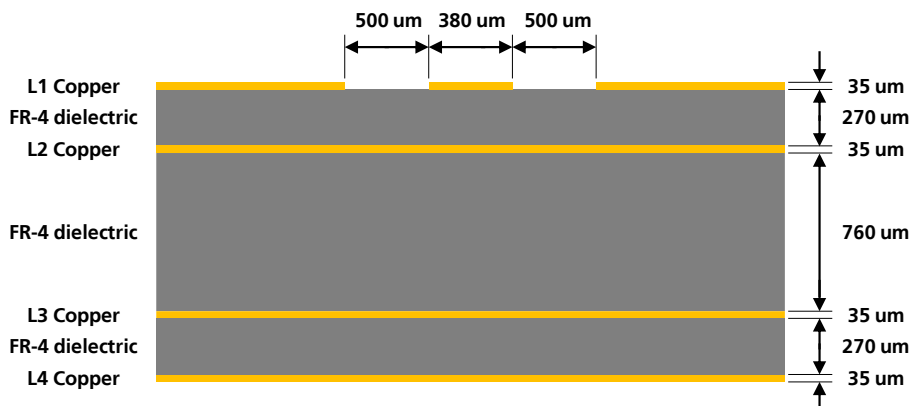
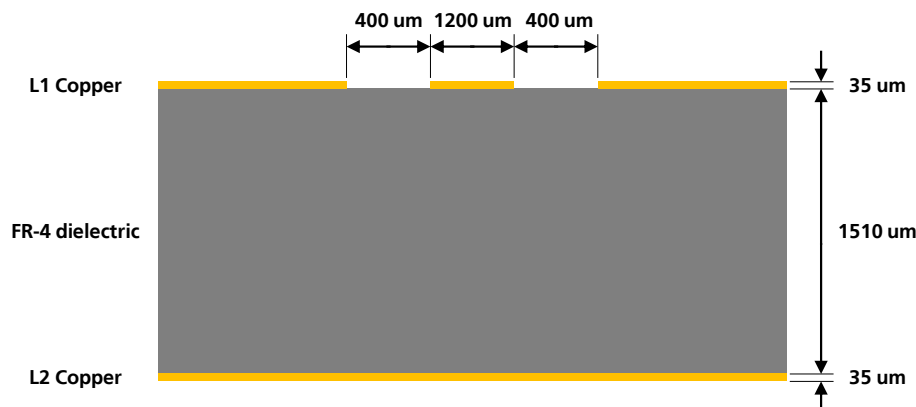

Figure 21: Example of 50  $\Omega$  coplanar waveguide transmission line design for the described 4-layer board layout
Figure 22: Example of 50  $\Omega$  coplanar waveguide transmission line design for the described 2-layer board layout
Figure 21 and Figure 22 provide two examples of proper 50  $\Omega$  coplanar waveguide designs: the first transmission line can be implemented in case of 4-layer PCB stack-up herein described, the second transmission line can be implemented in case of 2-layer PCB stack-up herein described.
- the thickness of the transmission line itself (e.g. 35  $\mu\text{m}$  in the example of Figure 21 and Figure 22)
- the thickness of the dielectric material between the top layer (where the transmission line is routed) and the inner closer layer implementing the ground plane (e.g. 270  $\mu\text{m}$  in Figure 21, 1510  $\mu\text{m}$  in Figure 22)
- the dielectric constant of the dielectric material (e.g. dielectric constant of the FR-4 dielectric material in Figure 21 and Figure 22)
- the gap from the transmission line to the adjacent ground plane on the same layer of the transmission line (e.g. 500  $\mu\text{m}$  in Figure 21, 400  $\mu\text{m}$  in Figure 22)